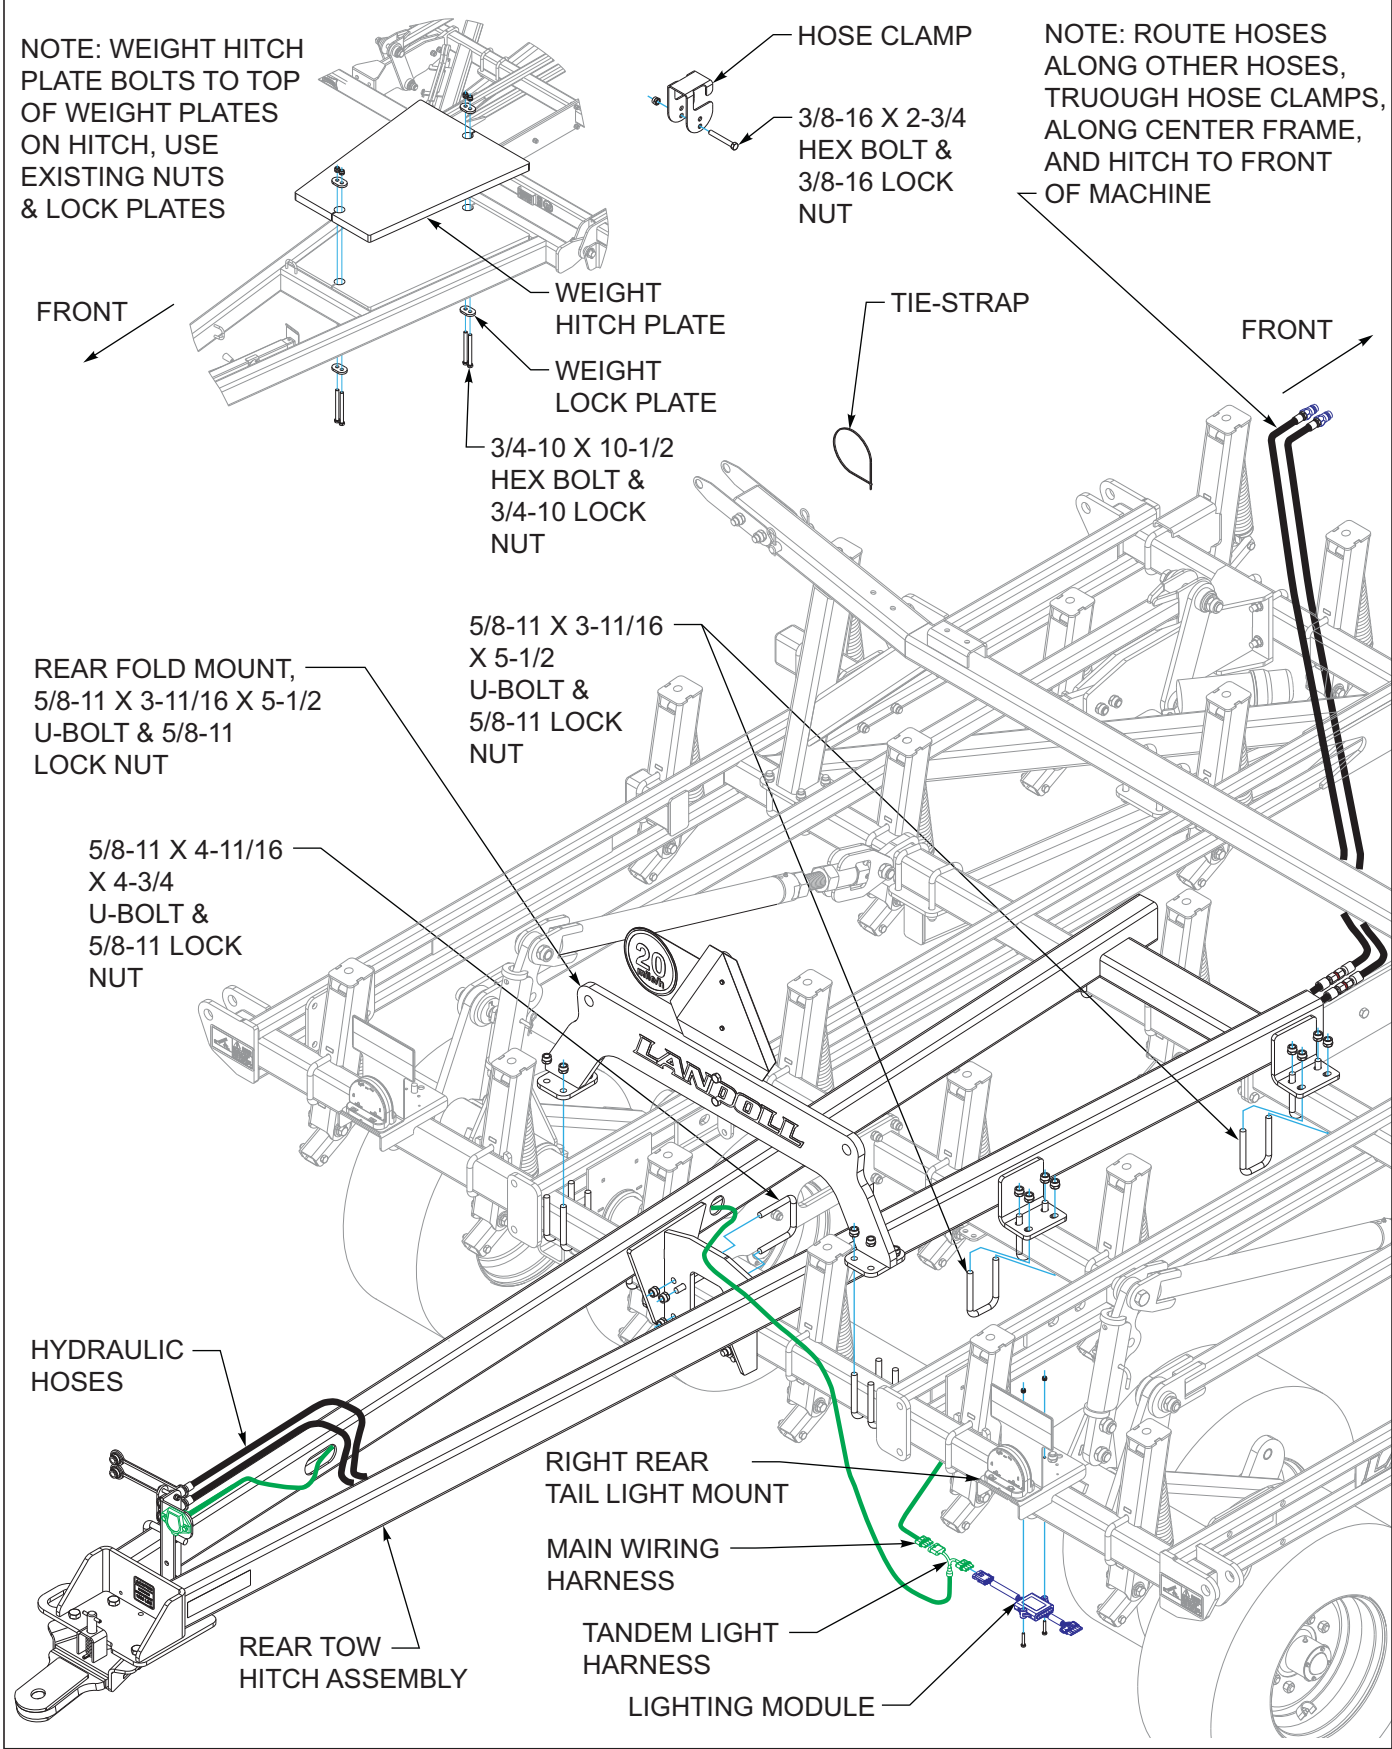
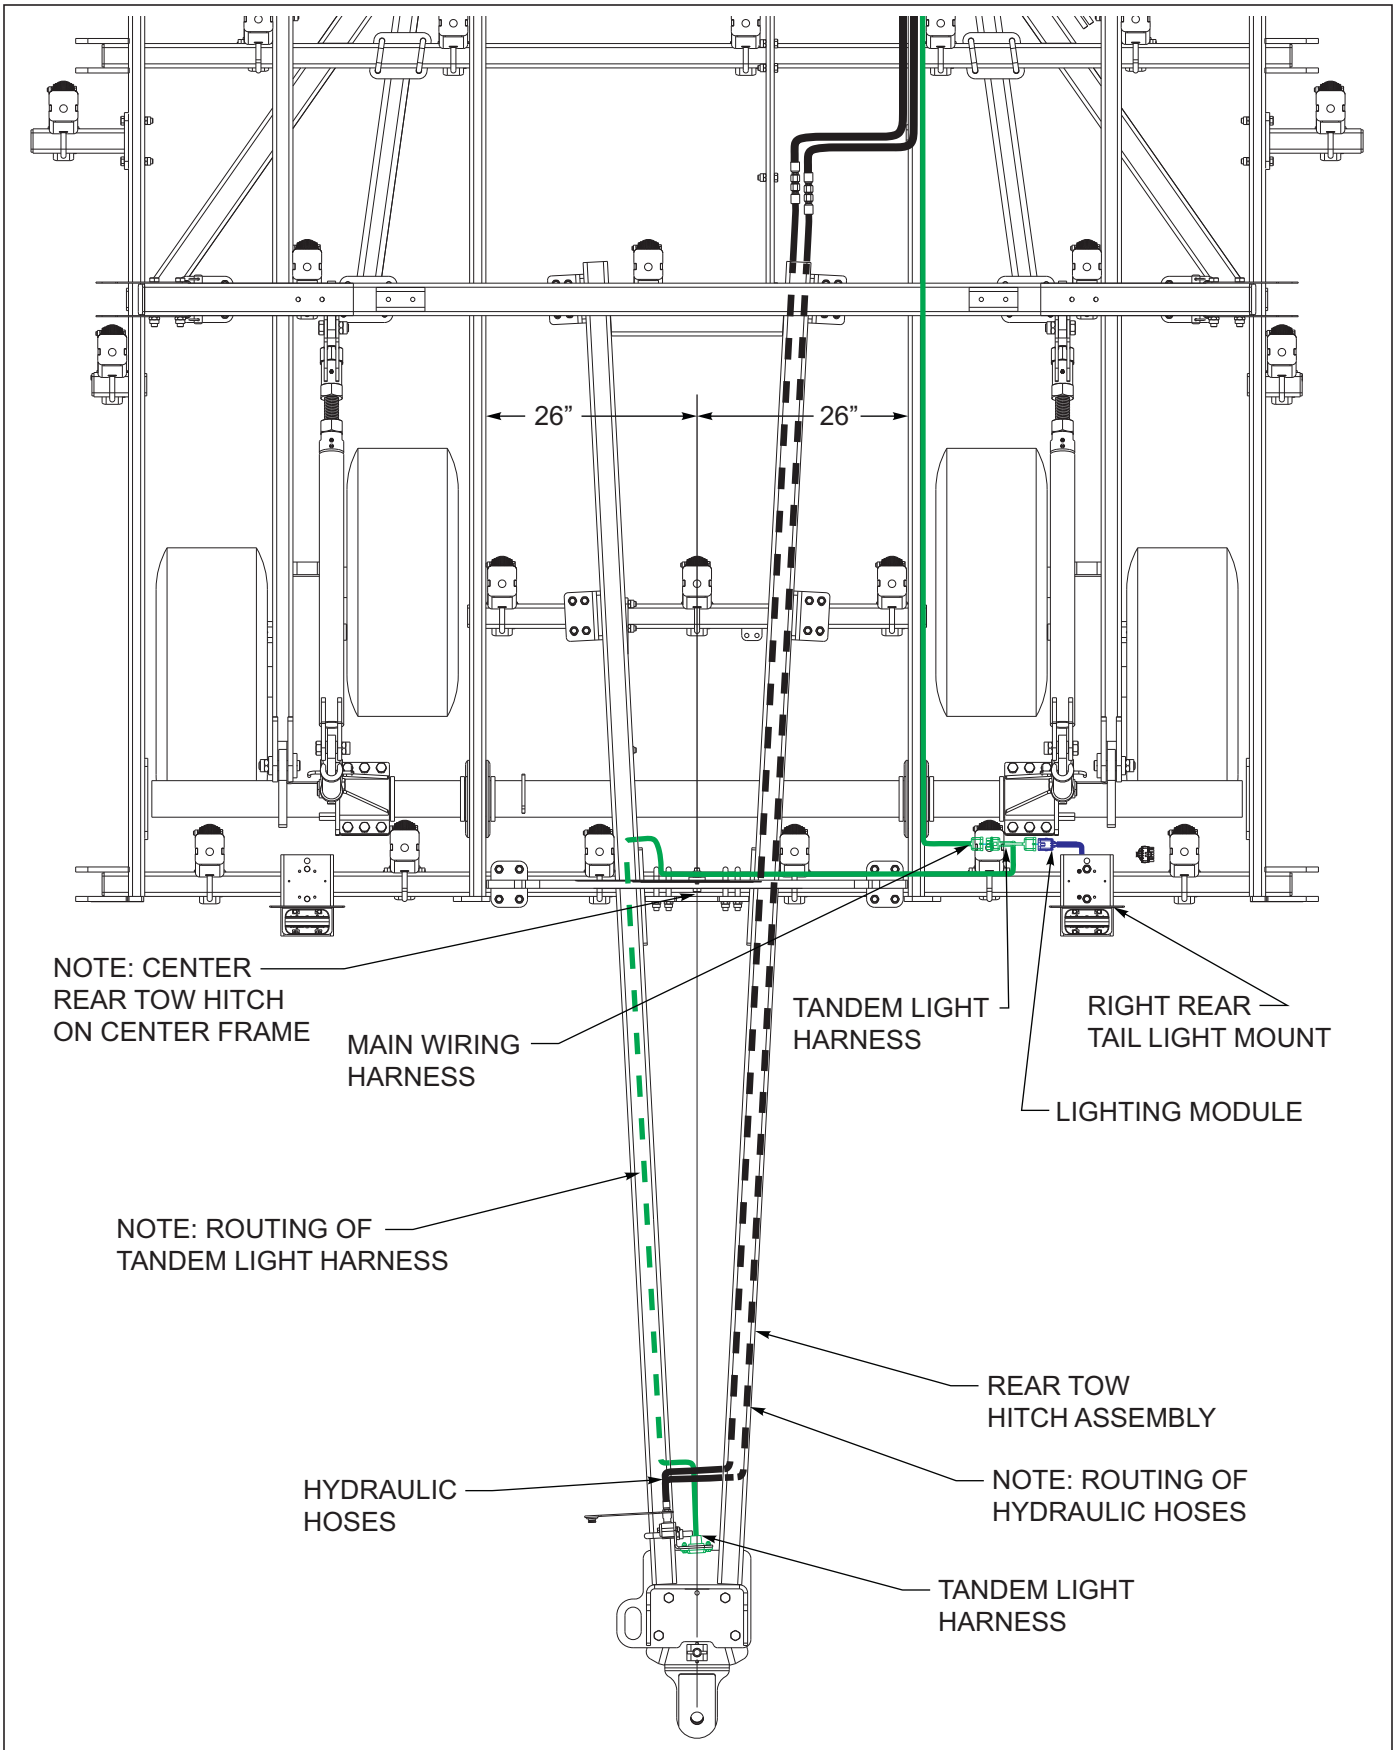

Figure 3-25: Rear Tow Hitch Installation
Figure 3-26: Rear Tow Hitch Layout
2. Remove the 3/4-10 x 8-1/2 hex bolts and 3/4-10 lock nuts from weight hitch plates *See Figures 3-25*.
8. Center the rear tow hitch assembly on center frame *See Figures 3-26*, tighten all u-bolts to secure hitch.
10. Route the tandem light harness connector across the rear frame bar to the right rear tail light. Unplug the existing four-pin main wiring harness from the lighting module. Connect the rear tow hitch harness between the lighting module and the main wiring harness *See Figures 3-25* and *See Figures 3-26* for proper hose and light harness routing.